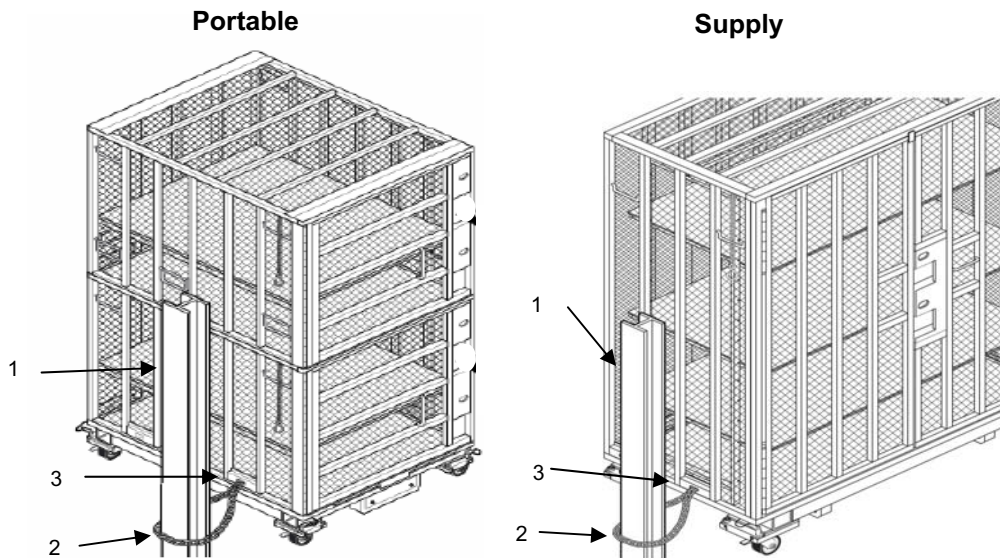

Figure 3-25. Securing the HVASCs.
3. Secure the HVASC to a fixed object or structure (Figure 3-25, Item 1) by pulling the chain (Figure 3-25, Item 2) through the attachment plate (Figure 3-25, Item 3) and securing it around or through a designated fixed object or other HVASC in the storage area.